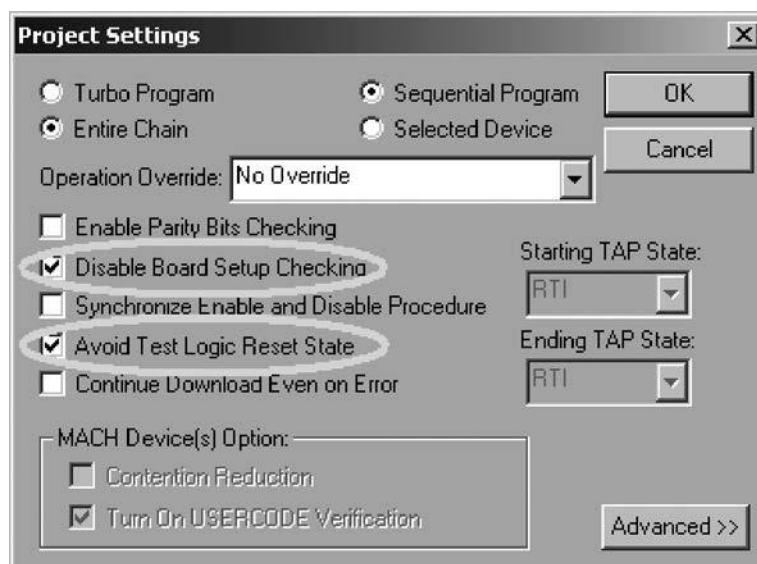

Figure 3.7. Project Settings for BSCAN2 Compatibility
- ispVM System must be configured to avoid the Test-Logic Reset (TLR) state. When the TLR state is reached, the Select register is cleared, deactivating all ports. Two options under the **Projects -> Project Settings** dialog must be set: **Disable Board Setup Checking** and **Avoid Test Logic Reset**, as shown in Figure 3.7.